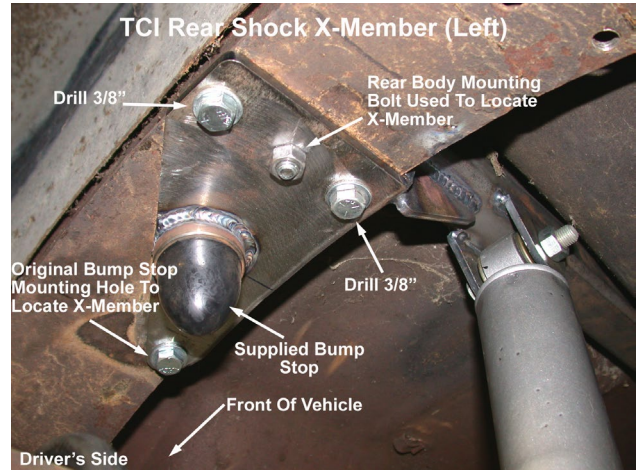

Fig 4
**6.** Now we can start by mounting the leaf-spring into position using the supplied 1/2"-20 X 4 1/2" NF Hex Bolt. Pre-assemble the leaf-spring by inserting the urethane bushing into position. The built-in rubber bushing on the leaf-spring mounts towards the front of the vehicle. Before mounting the leaf-spring & shackle to the frame, lift the rear-end into position onto a jack and mount the shackle to the frame. Make sure that the aligning pin on the leaf-spring is positioned on the rear-end. Next, place the U-bolt and 5-hole plate into position (Fig. 4) and fasten it with the equipped 1/2"-20 Full Height Nyloc. Mount the lower shock stud into the 5-hole plate and tighten the fastener to the specified torque.